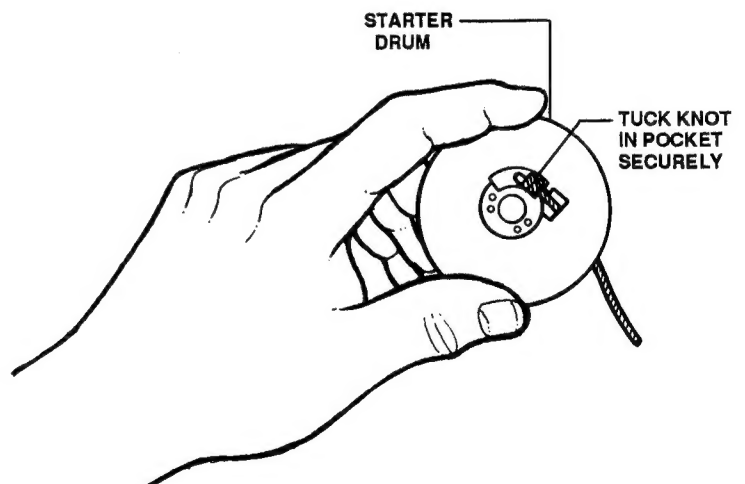

FIGURE 14
10. Reinstall new rope with knot securely tucked away in the pocket as shown. Apply a light coat of grease to the spring side of the drum. See Figure 14.